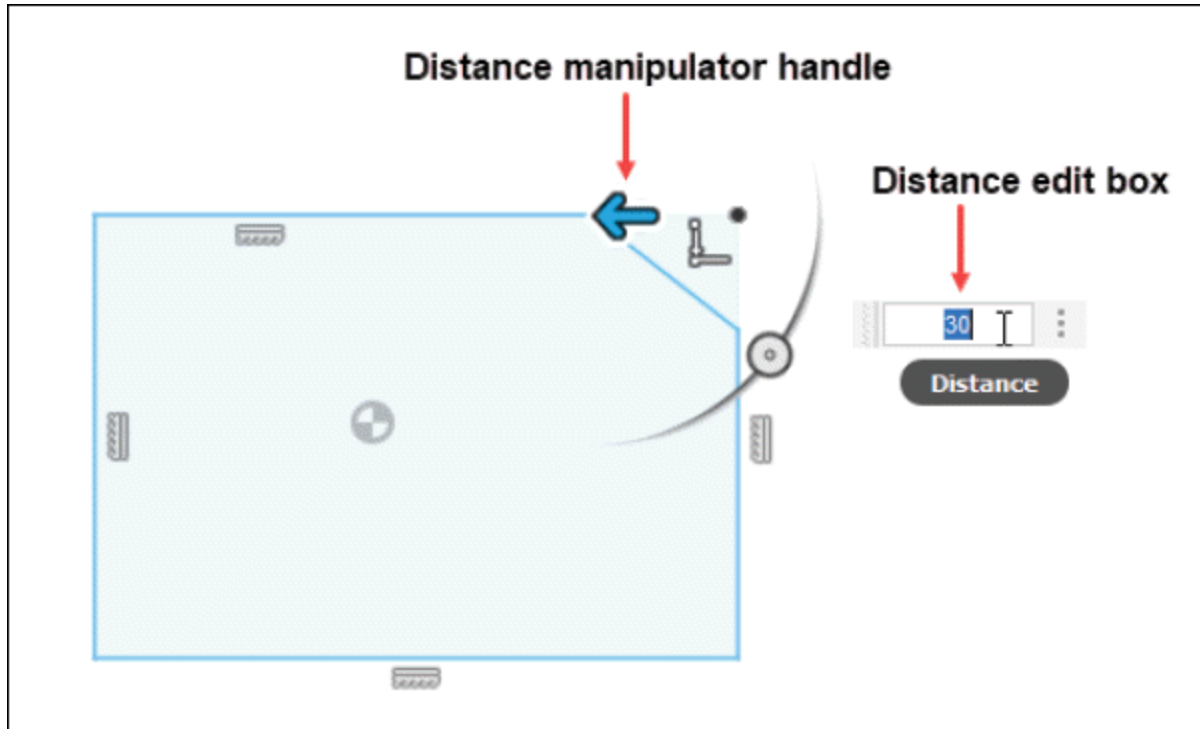

Figure-72. Specifying the distance of chamfer
- Click on the vertex or on the second line of the sketch and type desired distance value in the **Distance** edit box or drag the distance manipulator handle to specify the distance of chamfer; refer to Figure-72.